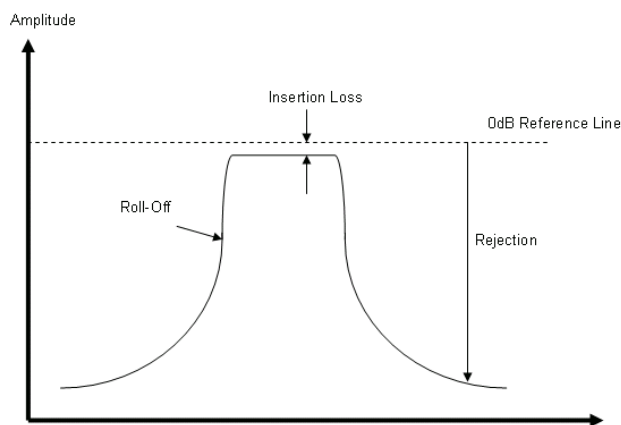

Figure 29. RF Filter Performance
An additional function of passive components in front of the antenna is to provide RF filtering. They may be used to create an 83-MHz pass-band window centered at 2.44 GHz for rejecting any unwanted signals outside the band that may impair the received signal quality. Figure 29 shows how such a filter would look displayed on a Network Analyzer. It has three main features: within the pass-band is an unwanted Insertion Loss (IL) which attenuates the transmit and receive signals, outside the pass-band is a wanted rejection which attenuates interference, and at the edges of the pass-band is the filter roll-off which should be as steep as possible to form a sharp cut-off between the pass-band and rejection-band.